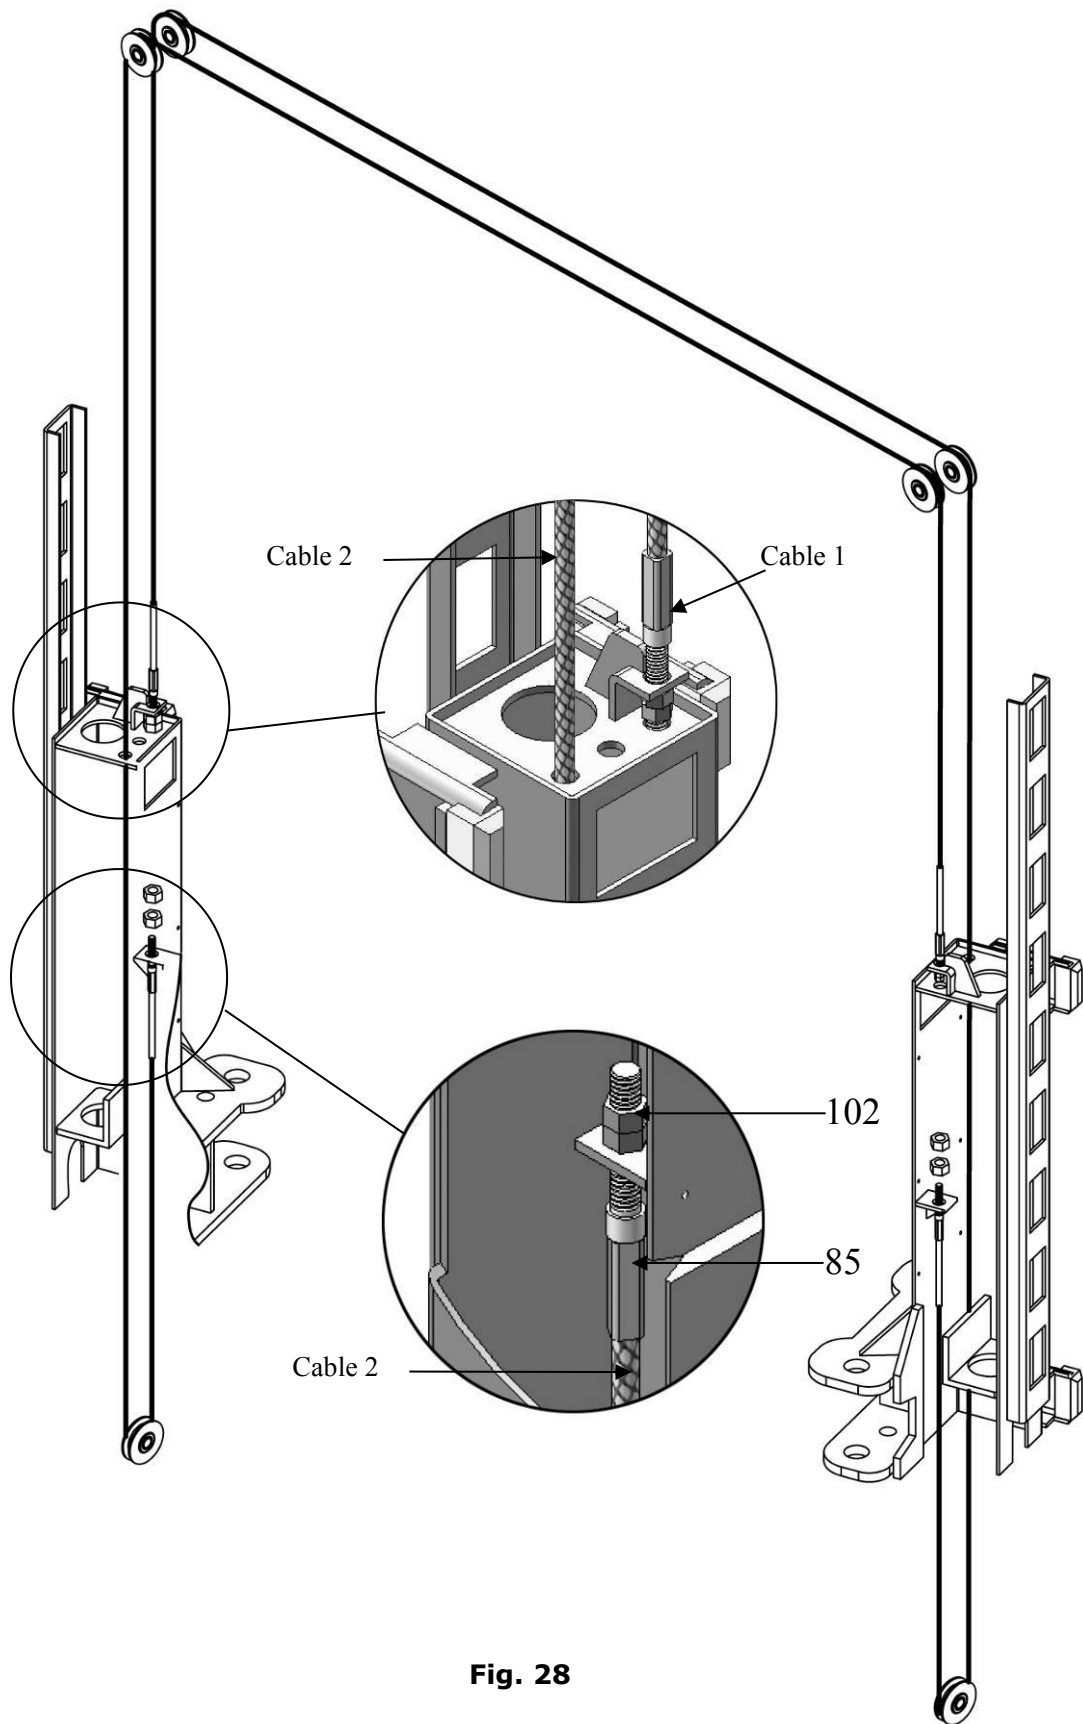

Fig. 28
2.2 Connecting cable for high setting (See Fig. 28).